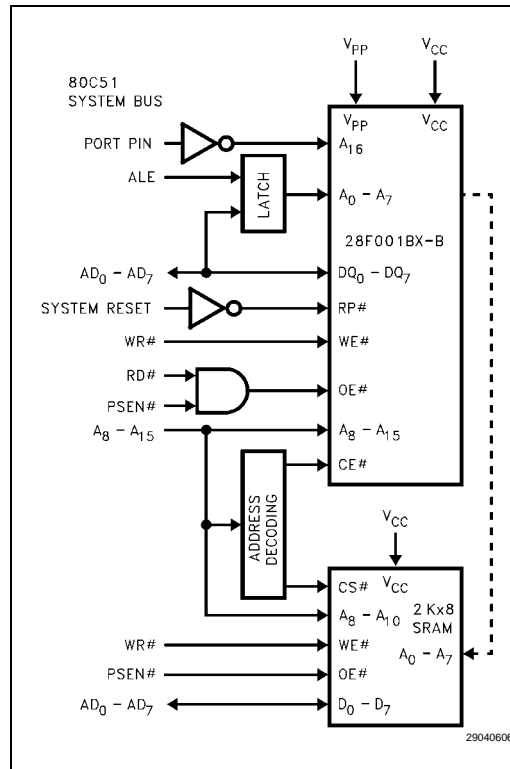

Figure 5. 28F001BX-B in a 80C51 System
-004	<p>Removed Preliminary classification.</p> <p>Latched address A_{16} in Figure 5.</p> <p>Updated Boot Block Program and Erase section: "If boot block program or erase is attempted while RP# is at V_{IH}, either the Program Status or Erase Status bit will be set to '1,' reflective of the operation being attempted and indicating boot block lock."</p> <p>Updated Figure 11, 28F001BX Erase Suspend/Resume Flowchart.</p> <p>Added DC Characteristics typical current values.</p> <p>Combined V_{PP} Standby current and V_{PP} Read current into one V_{PP} Standby current spec with two test conditions (DC Characteristics table).</p> <p>Added maximum program/erase times to Erase and Programming Performance table.</p> <p>Added Figures 13–16.</p> <p>Added Extended Temperature proliferations.</p>